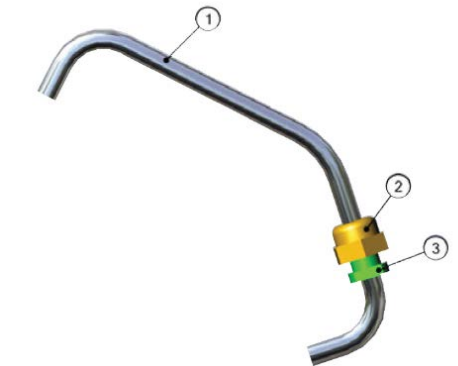

Figure 8: Soap spout with nut and bushing
1. To install, remove the bushing (Figure 8 - Item 3 shown in green).